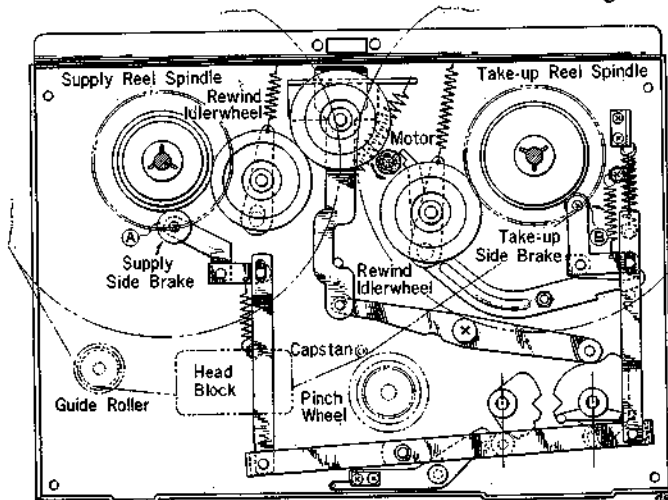

Fig. 5
Turning the stop lever to the "STOP" position, causes *Brake Rollers (A)* and *(B)* to depress the reel spindles and stop rotation. As the brake rubbers depress the plastic rollers below the reel spindles, no friction is applied to the tape. (See figure 5)